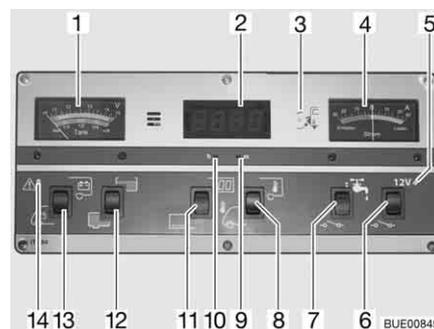

Fig. 155 Panel IT 994
With the V/tank gauge (Fig. 155,1), note the top scale. The gauge automatically lights up as soon as a switch is pressed.
- Press the lower part of the rocker switch (Fig. 155,13): The battery voltage of the starter battery is displayed.
- Press the upper part of the rocker switch (Fig. 155,13): The battery voltage of the living area battery is displayed.
The V/tank gauge is for the indication of the quantity of water or waste water. With the V/tank gauge (Fig. 155,1), use the bottom scale. The gauge automatically lights up as soon as a switch is pressed.
- Press the upper part of the rocker switch (Fig. 155,12): The volume of water is displayed.
- Press the lower part of the rocker switch (Fig. 155,12): The volume of waste water is displayed.
The red ALARM warning light (Fig. 155,14) flashes as soon as the voltage of the living area battery falls below 11 V (measured under operation) and there is a risk of a total discharge.
- Press the upper part of the rocker switch (Fig. 155,11): Digital clock display is switched on. Temperature display is ready to operate.
- Press the lower part of the rocker switch (Fig. 155,11): Digital clock display and temperature display are switched off.
- Press a thin device, such as a biro, into the opening for the hour display (Fig. 155,10) until the correct hours are displayed.
- Press a thin device, such as a biro, into the opening for the minute display (Fig. 155,9) until the correct minutes are displayed.
- Press the upper part of the rocker switch (Fig. 155,8): The internal temperature is displayed.
- Press the lower part of the rocker switch (Fig. 155,8): The external temperature is displayed.
The battery current actually flowing is permanently displayed on the current gauge (Fig. 155,4). The gauge automatically lights up as soon as a switch is pressed.
The 12 V main switch (Fig. 155,6) switches the panel and the 12 V power supply of the living area on and off.
*Switching on:* ■ Press the upper part of the rocker switch (Fig. 155,6): The 12 V living area power supply is switched on. The indicator lamp (Fig. 155,5) lights up green.
*Switching off:* ■ Press the lower part of the rocker switch (Fig. 155,6): The 12 V living area power supply is switched off. The indicator lamp (Fig. 155,5) goes out.
The 12 V indicator lamp (Fig. 155,5) illuminates whenever the 12 V main switch (Fig. 155,6) is switched on.
The yellow 230 V indicator lamp (Fig. 155,3) illuminates whenever line voltage is available at the transformer/rectifier input.
*Switching on:* ■ Press the upper part of the rocker switch (Fig. 155,7): The water supply is ON.
*Switching off:* ■ Press the lower part of the rocker switch (Fig. 155,7): The water supply is OFF.